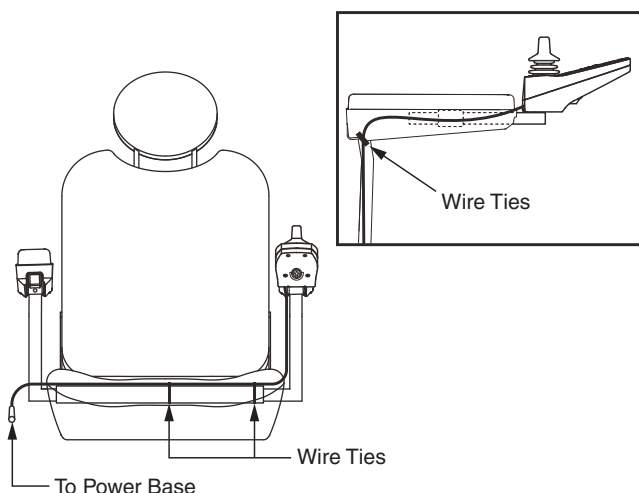

Figure 7. Controller Harness Routing on a Contour Seat
6. Secure the controller harness to the armrest receiver with wire ties. **See figure 7.**